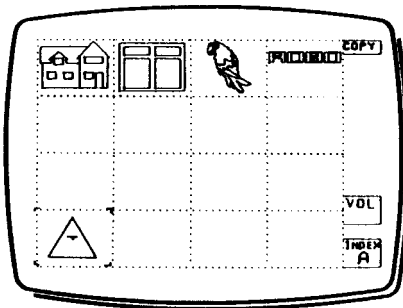

Fig 1
- 2 Select COPY from the Menu, then press and release L. The Work Page will be replaced by the Library Index (Fig 1).